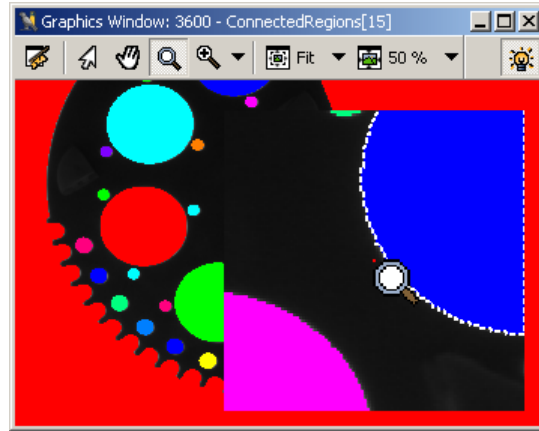

Figure 5.50: Magnifying glass.
- 🔍 Magnifying glass. Click into the graphics window to magnify the area at the mouse cursor. See figure 5.50 for an illustration of this tool.